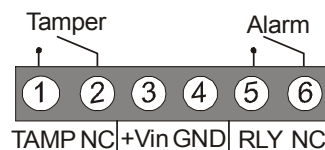

Figure 1: Terminal Block
- Connect the wires to the terminal block (as shown in figure 1).